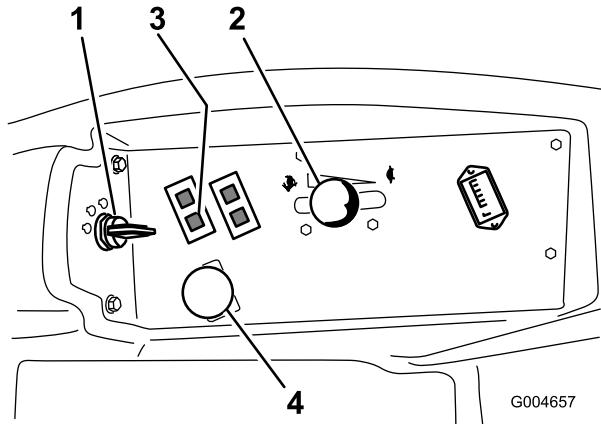

Figure 15
4. Move the PTO (power take off) switch to the off position (Figure 15).
- Move the throttle lever midway between the Fast and Slow positions (Figure 15).